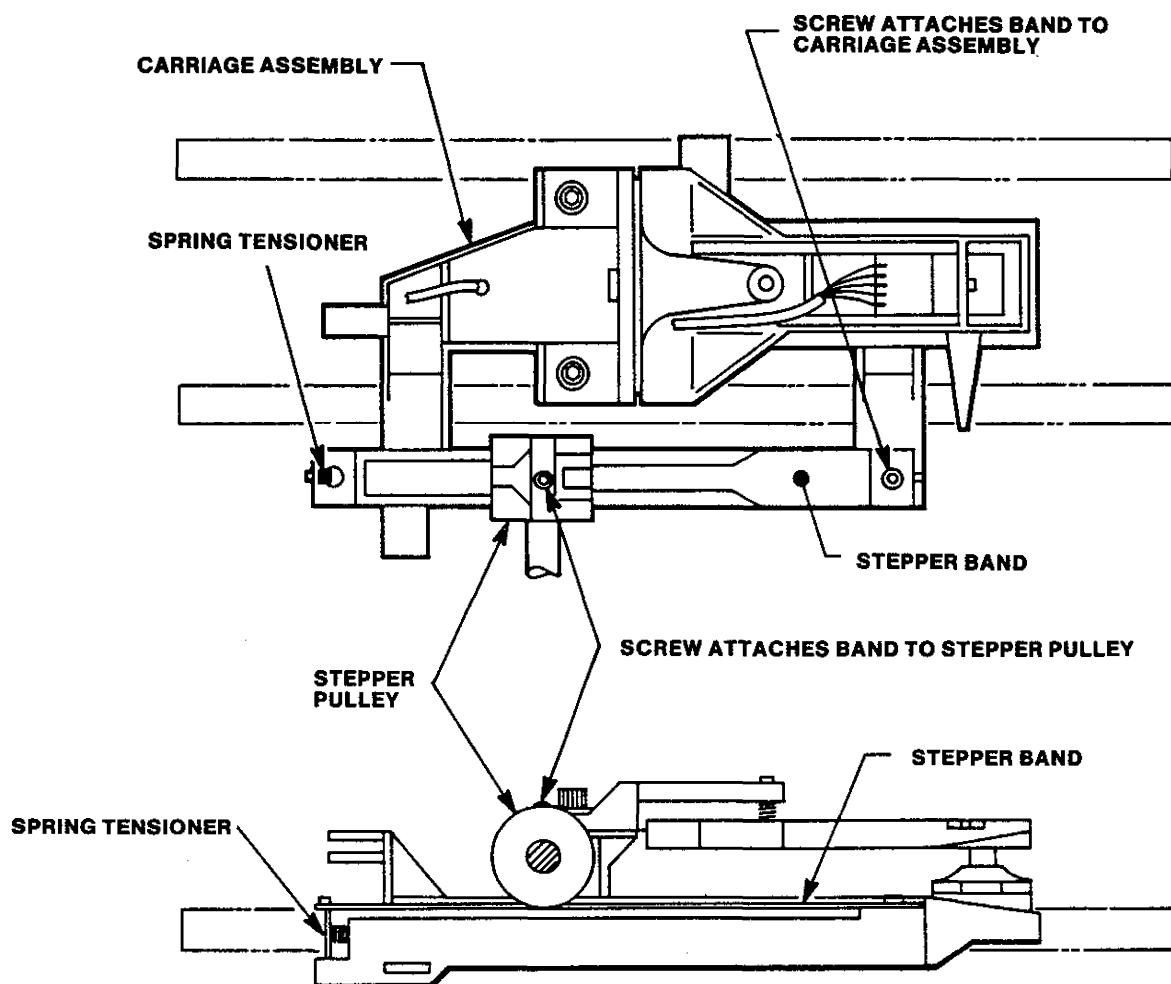

FIGURE 6-17
2. Lift off the stepper band from the spring tensioner (Figure 6-17).
1. Loop the front of the stepper band into the Head Carriage Assembly (Figure 6-17).